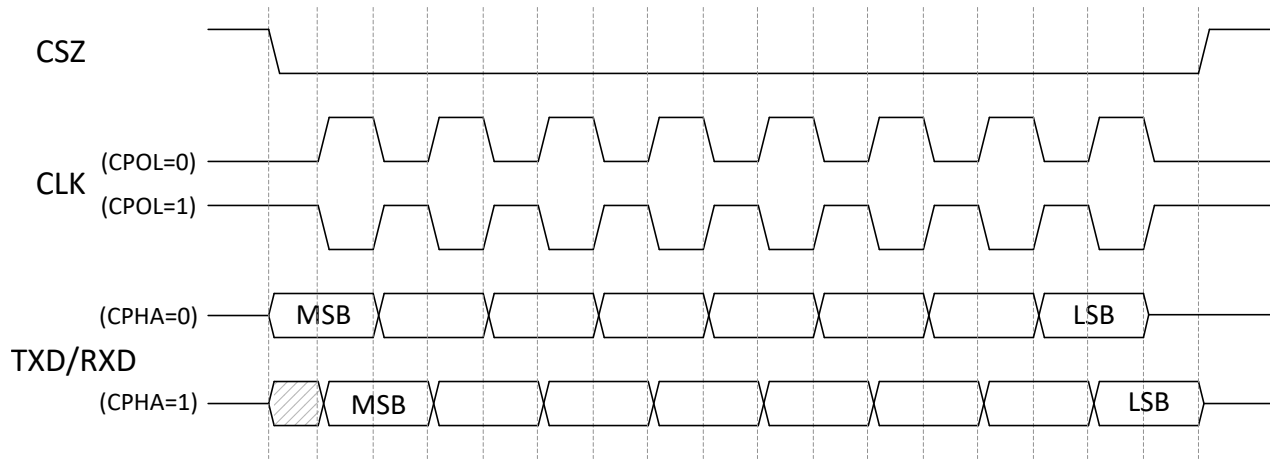

Figure 5-17. Timing Diagram for SPI Clocking Modes
- (1) The DLPC7530 SPI interfaces support SPI Modes 0, 1, 2, and 3 (that is, both clock polarities and both clock phases) as shown in Table 5-2 and Figure 5-17. As such, each SPI interface configuration must be setup to match the SPI mode being used.